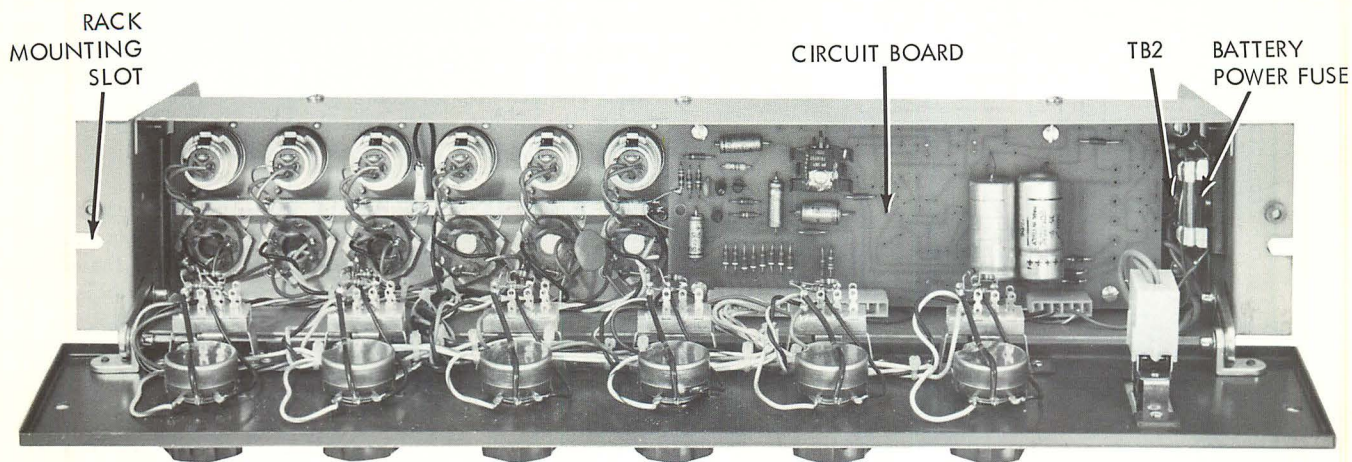

Figure 2. Front View 1599A with Hinged Panel Open
- Step 1. Remove two screws securing front panel; open and lower panel (see Figure 2).
- Step 2. Locate terminal board TB2 beneath power transformer T1 (see Figure 2).
The battery fuse is located within the chassis (see Figure 2). If fuse replacement is required, determine and correct any cause of failure before replacing fuse. Install an identical fuse (see **PARTS LIST**) by opening the front panel, removing the fuse from the clip holder and inserting a new fuse.